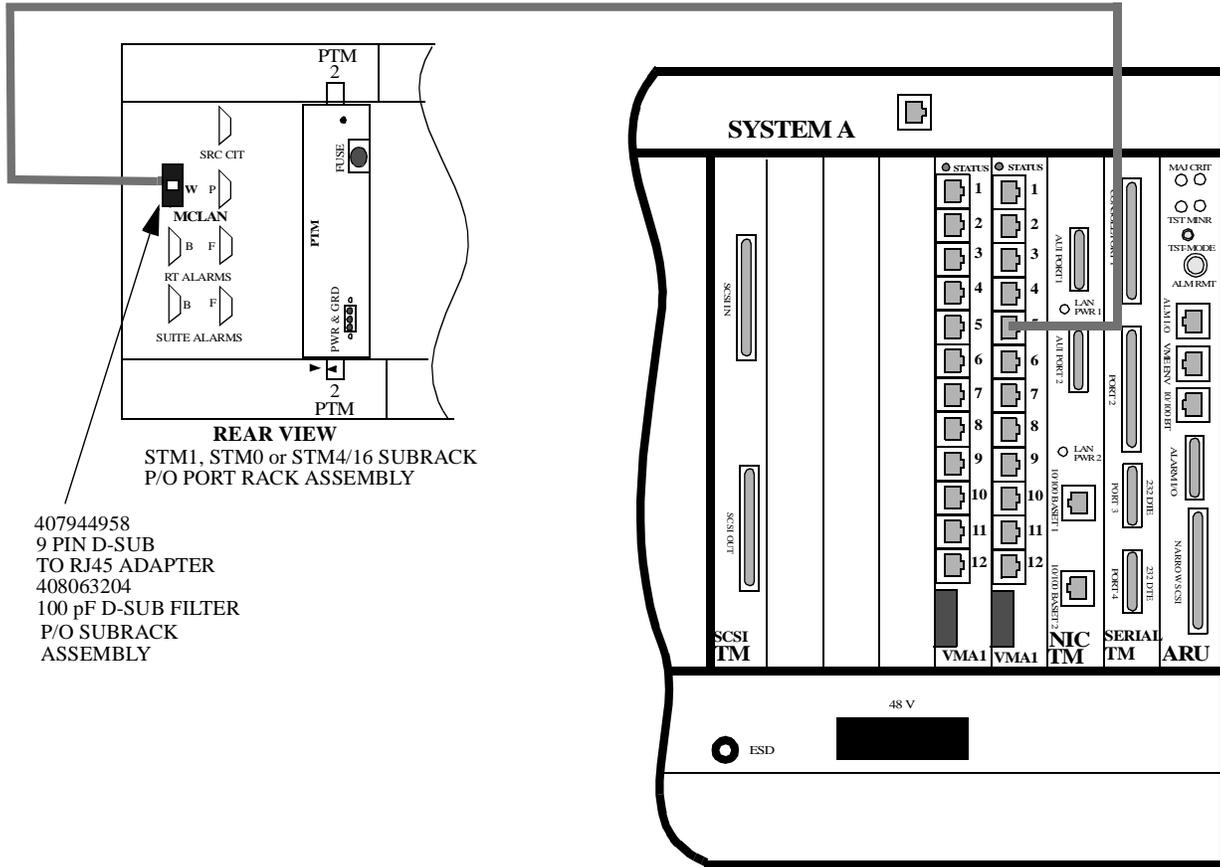

Figure 7-2. LAN Hub Unit - MCLAN Port Connections
The LAN Hub card is shown in detail in Figure 7-2. (page 4).
*Step 2-a: **Overhead Cable Rack:*** As viewed from the rear of the MC rack, run the MC Lan cable down from the cable tray, down the *right* side of the MC rack to the LAN Hub connector panel and make the connection at the appropriate LAN Hub location at the front of the LAN Hub unit. Figure 7-2. (page 4) provides a visual reference.
*Step 2-b: **Under Floor Cable Rack:*** As viewed from the rear of the MC rack, run the MC Lan cable up from the cable tray, up the *right* side of the MC rack to the LAN Hub Unit and make the connection to the appropriate connector at the front of the LAN Hub unit. Figure 7-2. (page 4) provides a visual reference.